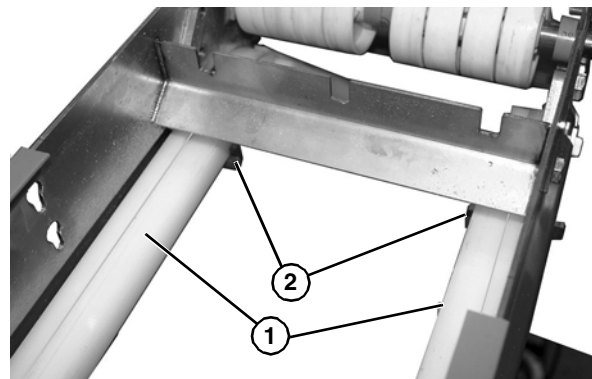

Figure 35
2. Install belt return (**Figure 35, item 1**) onto mounting bracket (**Figure 35, item 2**).